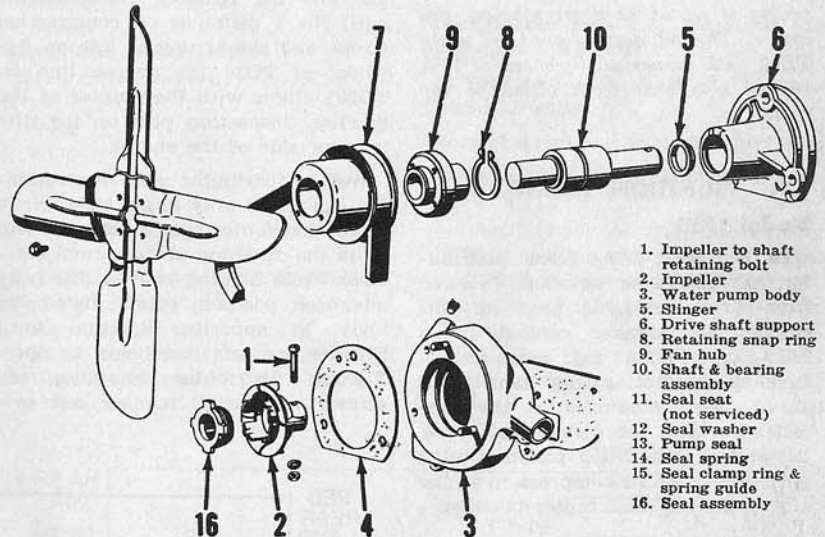

Fig. F22A—Water pump—exploded view. Seal assembly (16) consists of a carbon washer, rubber bellows, reinforcing ring and spring.
Fig. F22B—Models TE20, TO20, and TO30 engine water pump. Bearings and shaft (10) are renewed as an assembly. Seal seat (11) is not serviceable. Refer to Fig. F22A for legend to callouts.
fan blade and pulley retaining cap screws and fan belt. Fan blades may be renewed at this time. Remove three nuts retaining drive shaft support (6—Fig. F22A, or F22B) to pump body and remove assembly (seal, impeller and shaft). Pump body can be removed after removing pump body to engine retaining stud nuts.